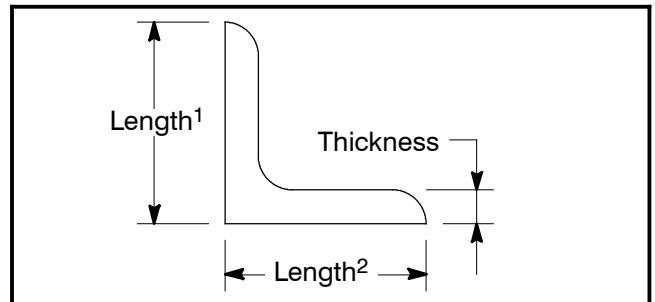

Figure 3
2. Accurately measure and record the nominal cross section dimensions of the lattice, diagonal, picture frame, or brace to be replaced or repaired. Refer to Figure 3.